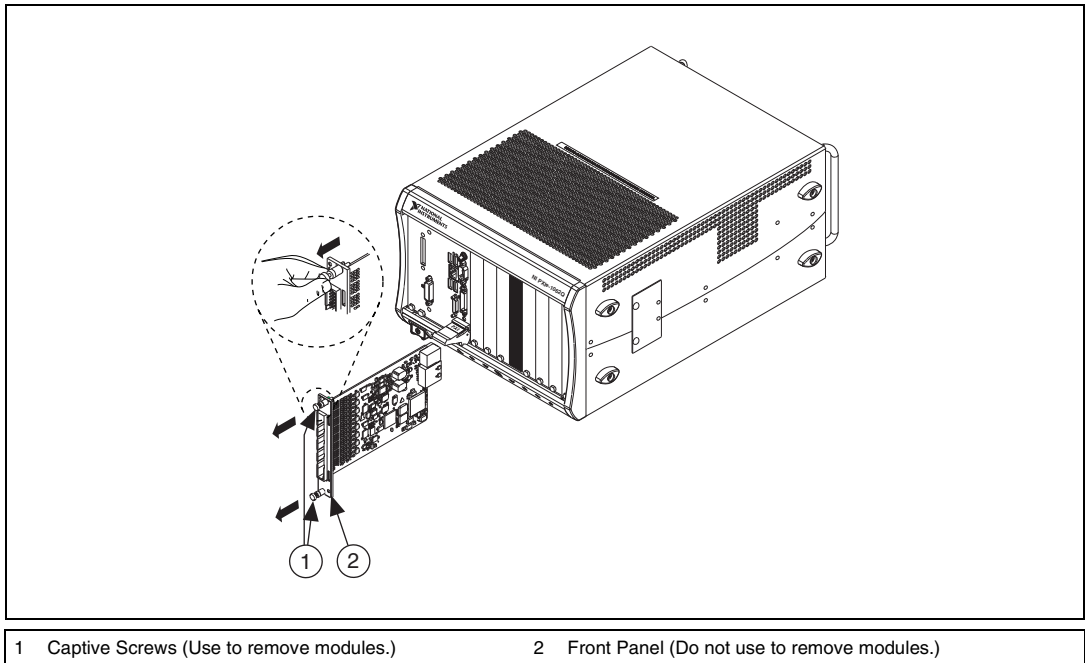

Figure 9. Removing NI SC Express Modules
3. Pull the captive screws to unseat the module and slowly slide the module along the guides, as shown in Figure 9.